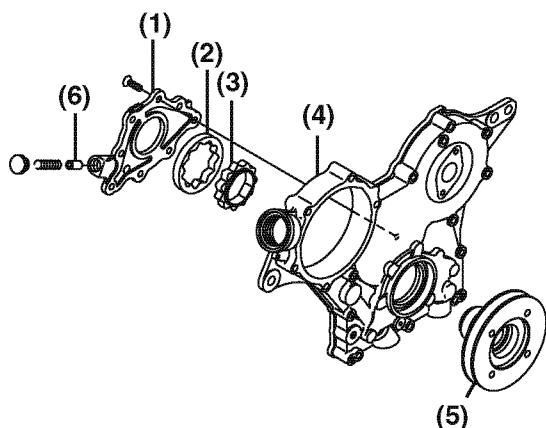

Figure 8-2
1. Remove the crankshaft pulley (**Figure 8-2, (5)**).
2. Remove the gear housing cover (**Figure 8-2, (4)**).
3. Remove the oil pump cover (**Figure 8-2, (1)**) from the gear housing cover. Do not disassemble the inner / outer rotors (**Figure 8-2, (2) and (3)**) and check that the pump rotates smoothly.
4. Remove the pressure control valve (**Figure 8-2, (6)**) from the oil pump cover.